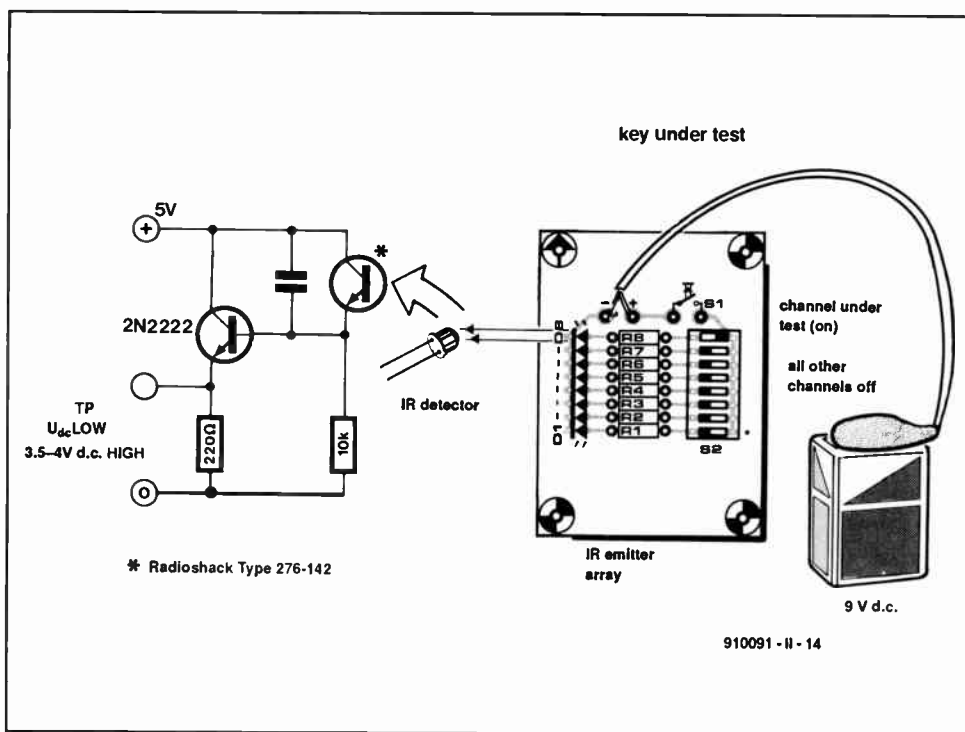

Fig. 7. Auxiliary circuit for testing the key assembly.
- 1) Construct the circuit shown in Fig. 7.